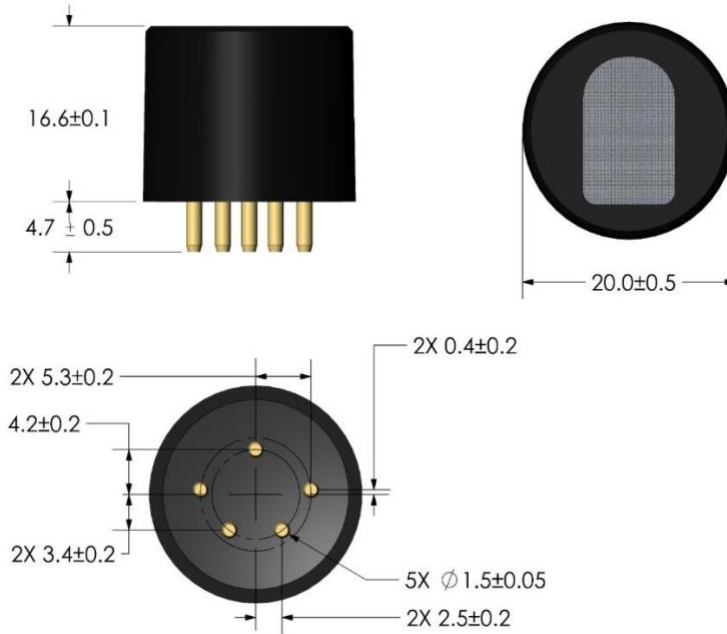

Figure 10: MPS Extended Range Methane Gas Sensor critical dimensions (mm)
The sensor has the same cylindrical shape and dimensions as many industry-standard (catalytic and infrared-type), "4 series" combustible gas sensors and is Intrinsically Safe (IS) certified. To improve water ingress protection, a user may elect to affix a microporous membrane (e.g., Porex PTFE PM21ML) to the sensor intake. The addition of such a membrane may slow the speed of response, dependent upon the gas. Lighter gases (e.g., methane) are relatively unaffected; however, for heavier gases like toluene and xylene, one can expect slower response times and some suppression of reported concentration. The critical dimensions of the sensor are indicated in Figure 10 and the pinout in Figure 11. The mating receptacles are available in distribution, and can be found using Mill-Max P/N: 0384-0-6780-23-27-10-0.